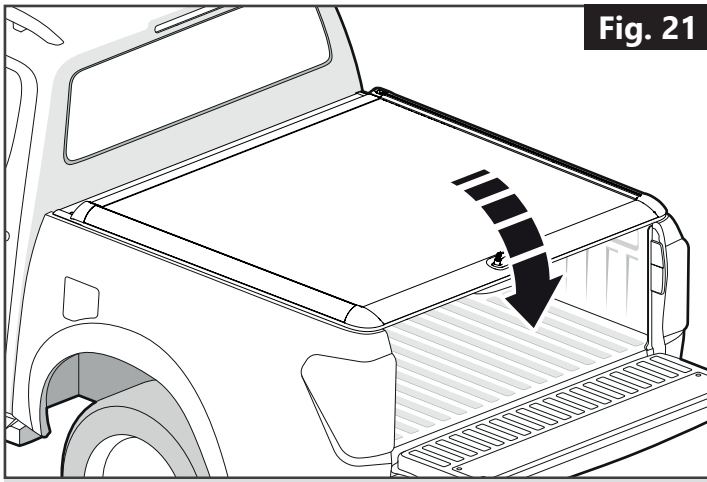

Fig. 21
- 3) Close the cover. **(Fig. 21)**